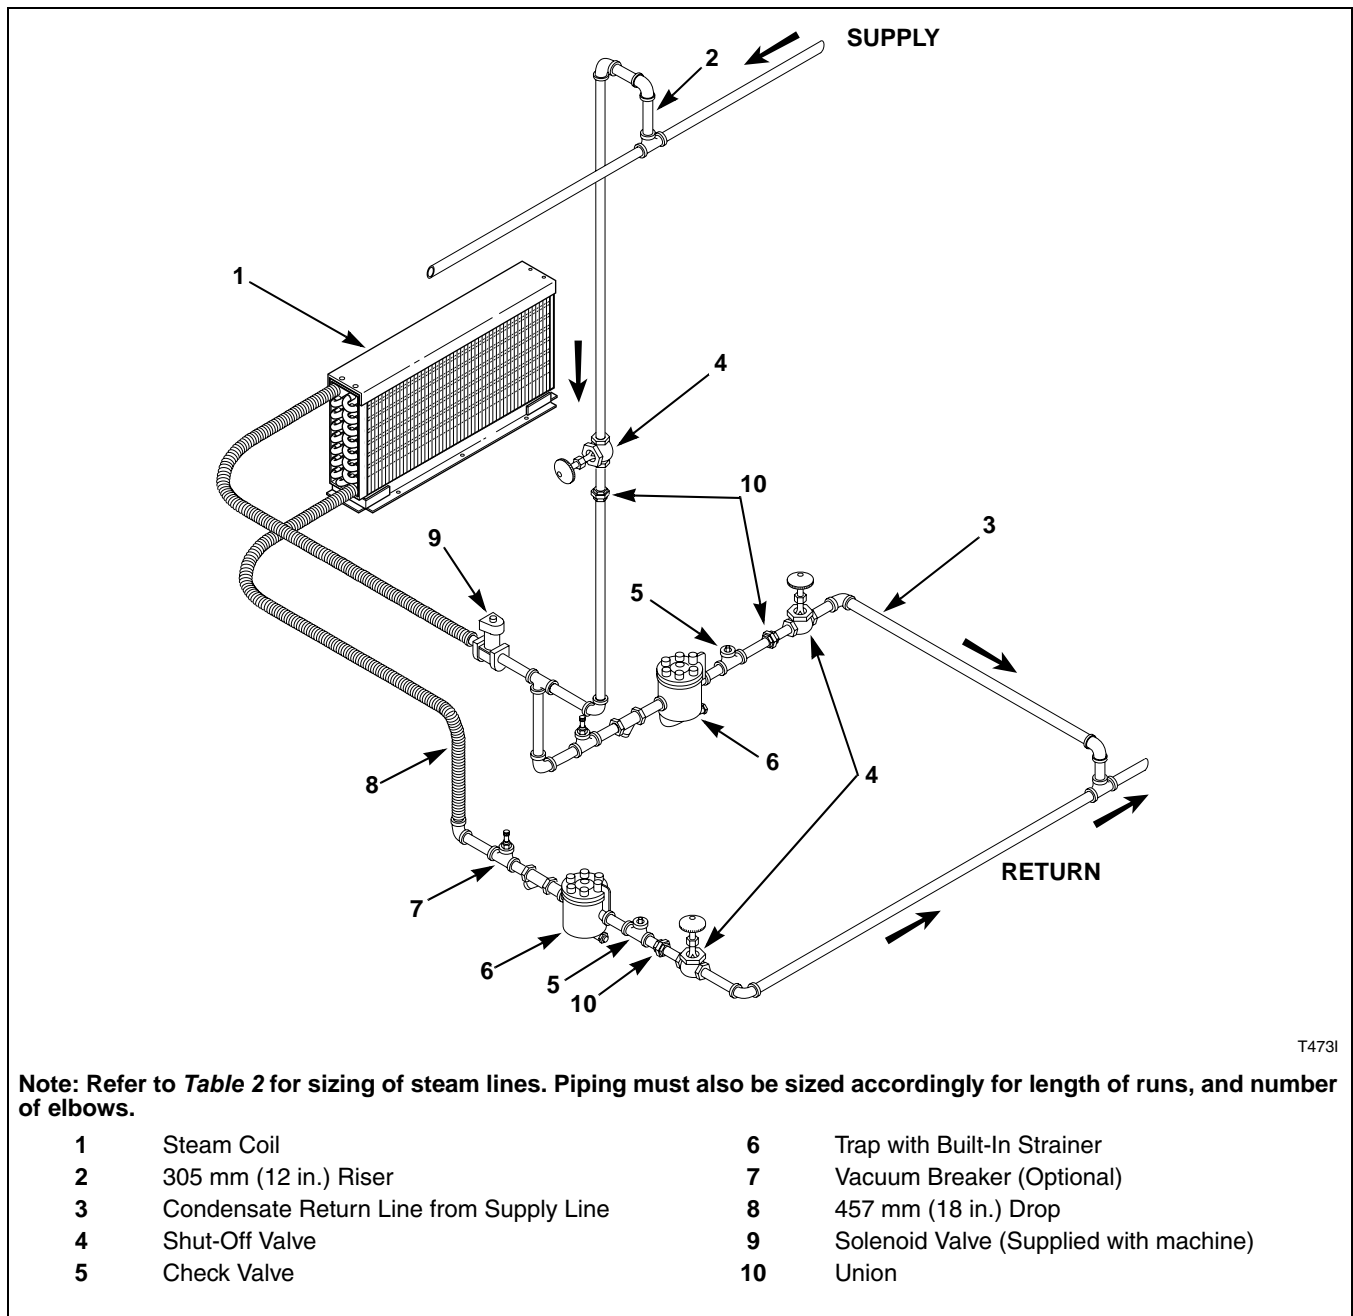

Figure 2
- Refer to *Figure 2* for proper steam pipe configurations.